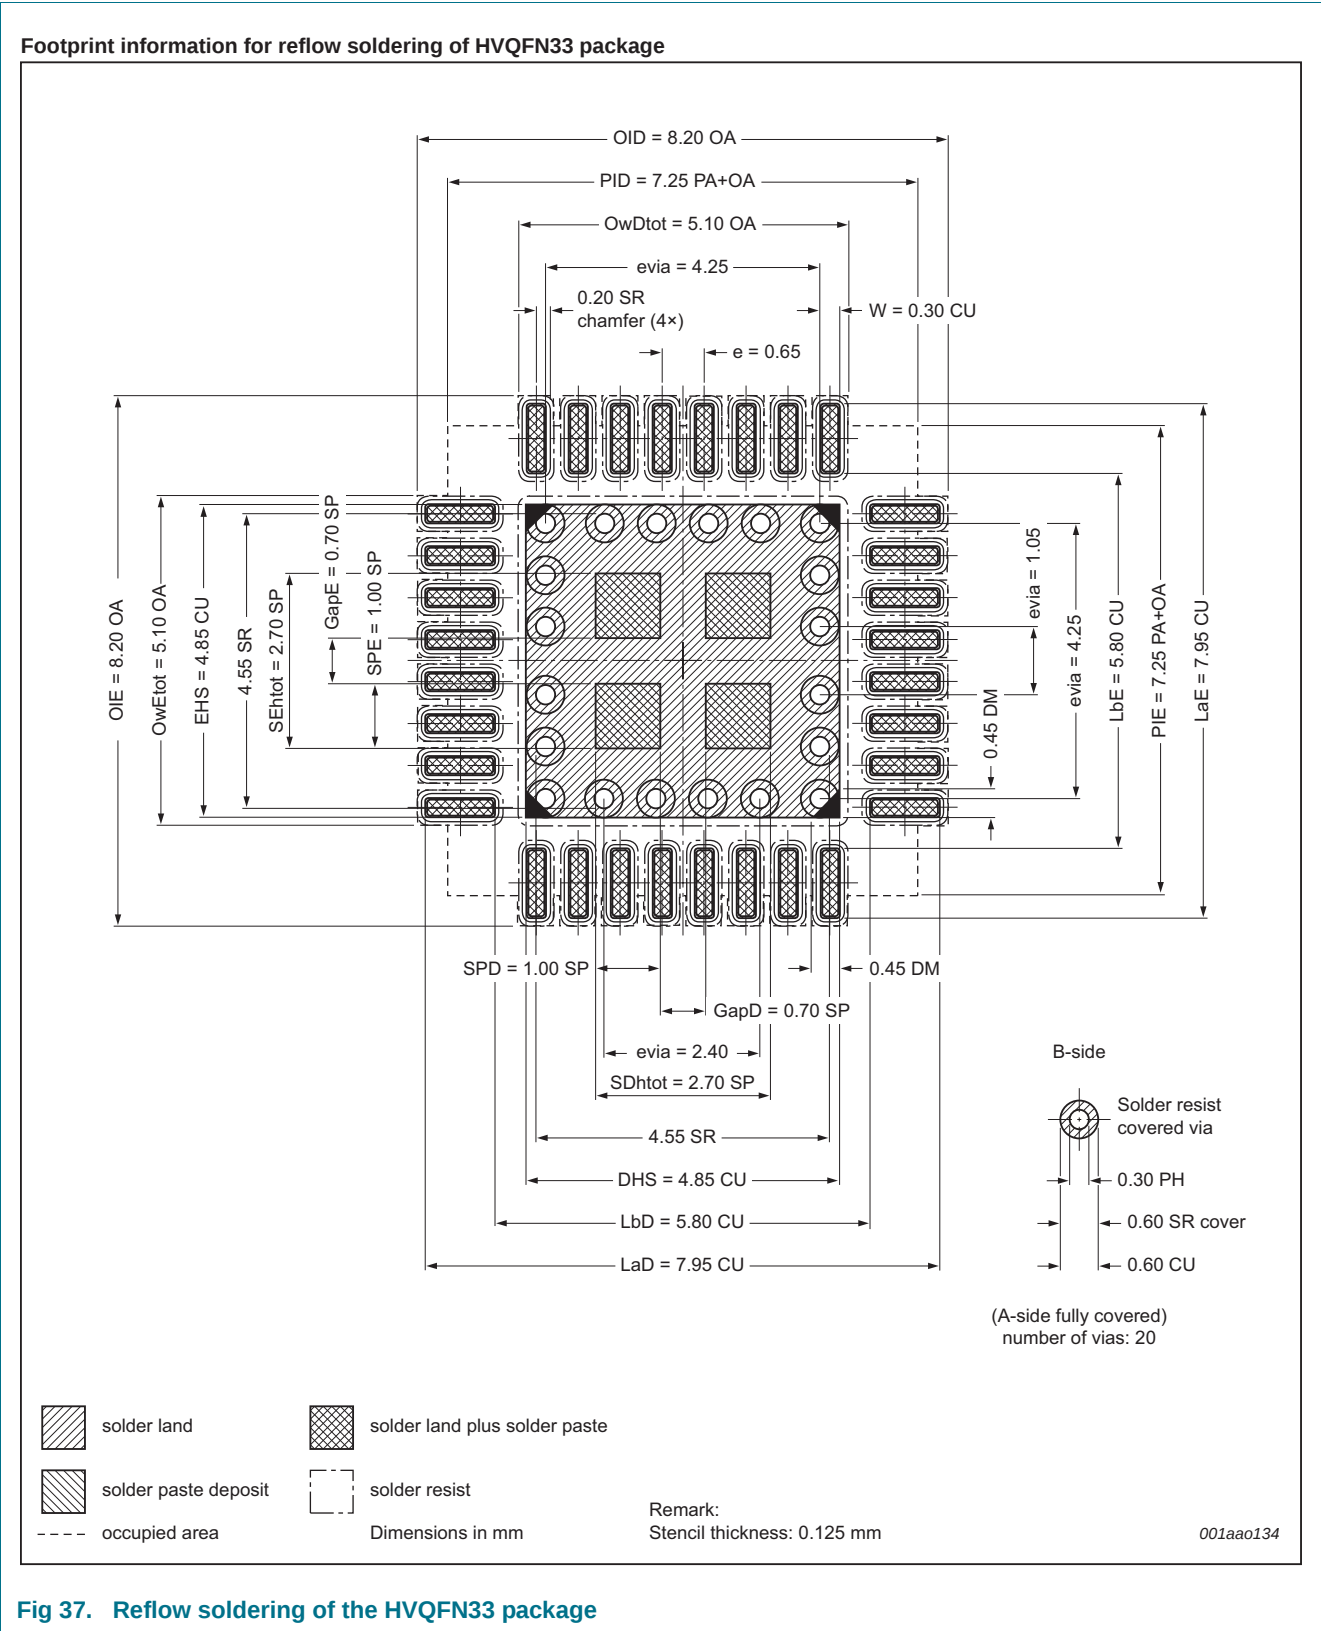

Fig 37. Reflow soldering of the HVQFN33 package
- Reflow soldering drawing corrected for the HVQFN33 package. See Figure 37. - BOD interrupt trigger level 0 removed. See Table 7. - Pin configuration diagrams updated: Orientation of index sector relative to part marking corrected in Figure 4 to Figure 7.